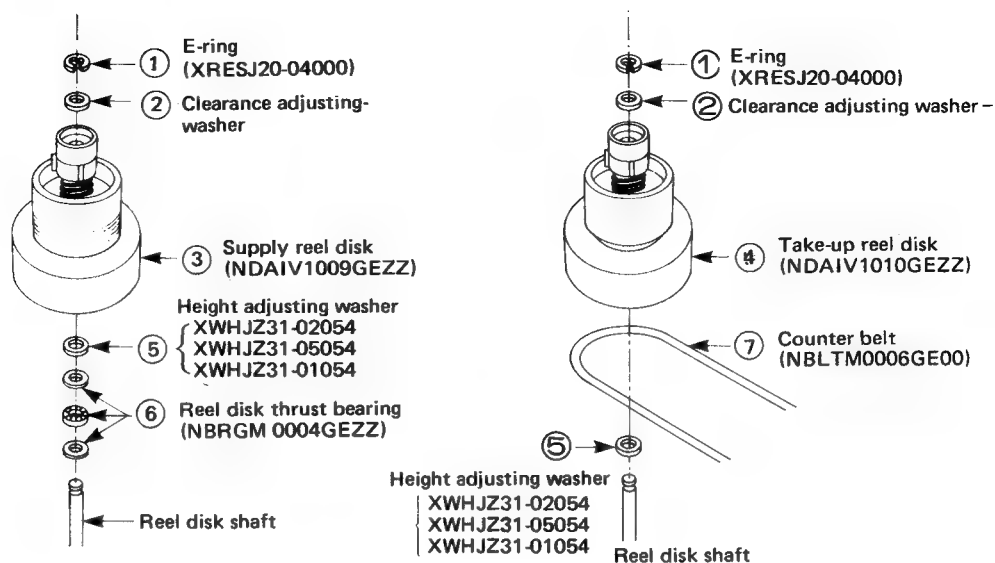

Figure 53.
REPLACEMENT, ASSEMBLY AND HEIGHT ADJUSTMENT OF THE REEL DISKS (See Fig. 53)
1. Place the master plane and insure that the height of the reel disk is lower than the part "A" but higher than the part "B" of Fig. 53, by using the reel disk height adjusting jig. If the height is not correct use the height adjusting washer: this washer is available in three sized (3.1W 5.4-0.25), (3.1W 5.4-0.5) and (3.1W 5.4-0.13). The looseness in backlash on the shaft should not exceed 0.1 to 0.5mm.